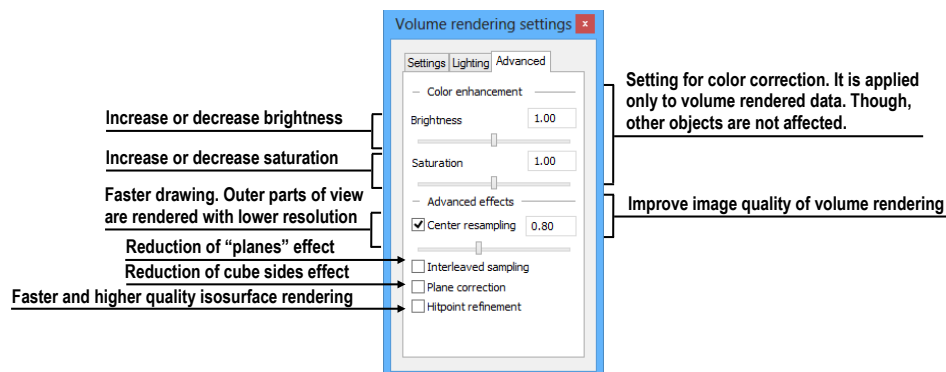

Figure 314 – Volume rendering settings, the third tab
- settings for color corrections and advanced ray casting settings on the third tab (see Figure 314)